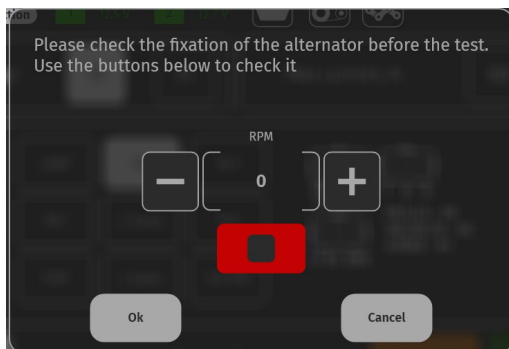

Figure 17. Alternator preview speed setting window
4. After pressing the button «Automatic test» there will appear a window with setting the speed of the pre-test of the alternator (see fig. 17). With «+» «-» buttons set the value of the rotation speed in the range of 100 to 150 rpm.